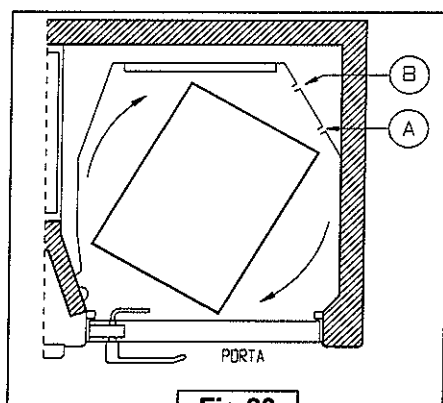
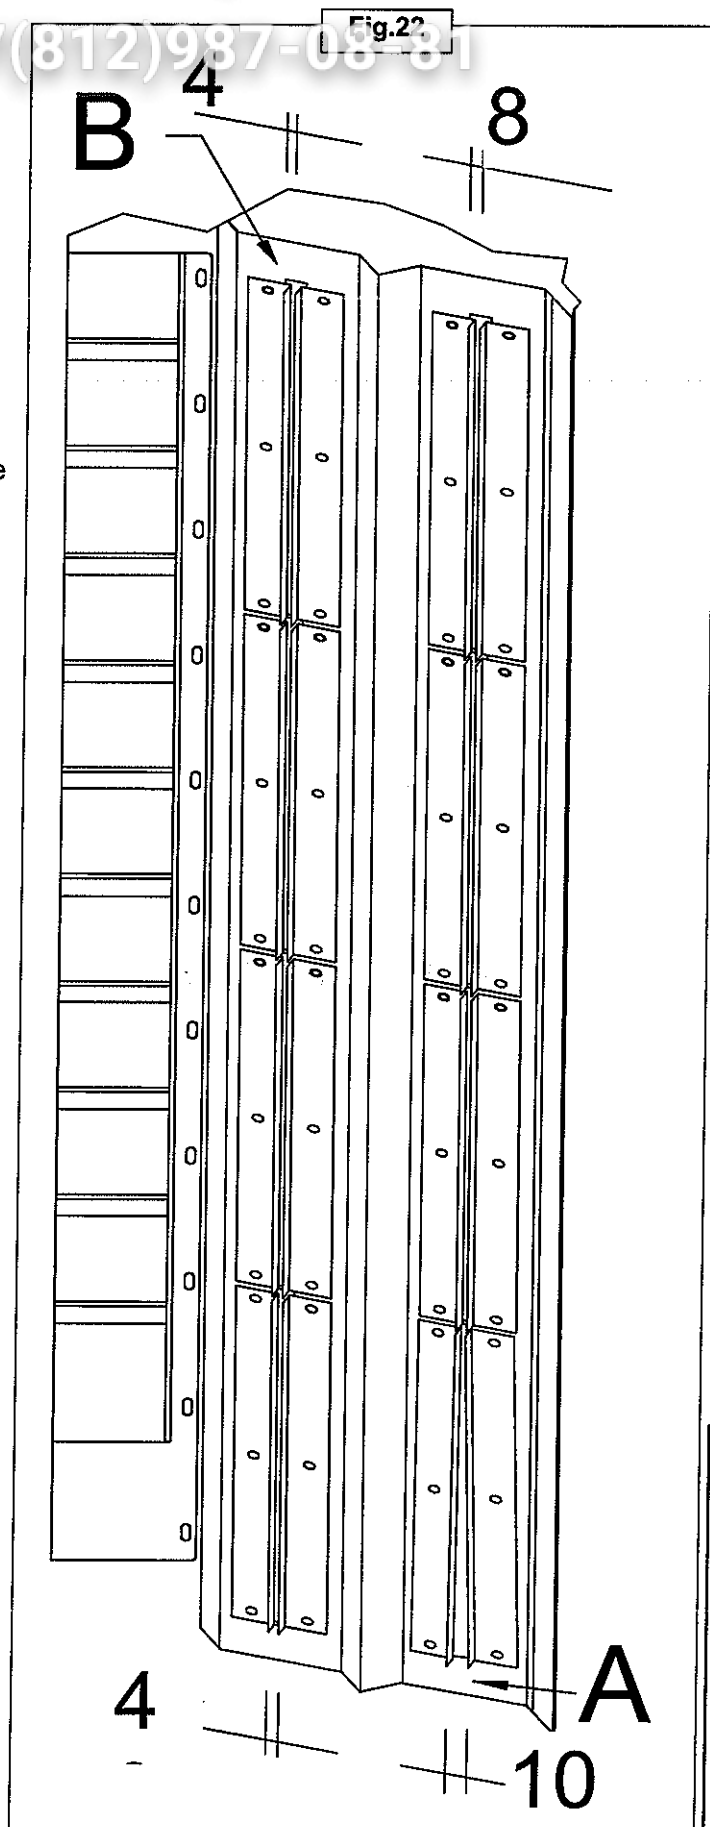

Fig.20
Fig.22
As the air locks are slanted (**Fig. 20**) the measurement of the standard adjustment shown in Fig. 22 must be taken in the narrowest part (REAL SECTION).
The air locks (**Pos. a Fig. 20**) affect the baking of the dough in the center area of the trays; those in Pos. b affect baking at the sides..
The **Fig.22**, seen from the inside of the baking chamber, shows the standard adjustment figures for the air locks.
**ADJUSTMENT:** Increase the aperture of all air locks **Pos.b Fig. 22**
**ADJUSTMENT:** Move the air locks **Pos.a Fig.22** corresponding to the trays that do not bake, 1mm to the left
**ADJUSTMENT:** Move the air locks **Pos.a Fig.22** corresponding to the trays that do not bake, 1mm to the right
Usually the air locks **Pos.a Fig.22** to the right of the oven bake the center of the tray less, if they are moved to the left, the oven bakes the center of the tray more.